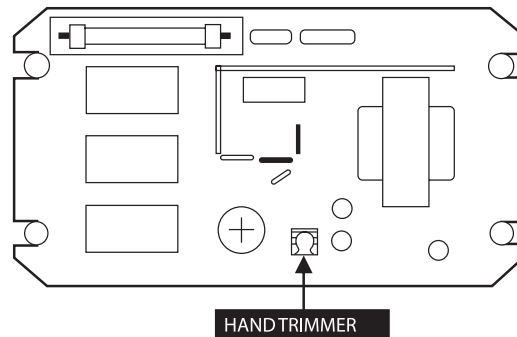

Figure 26: Hand Trimmer Location on AVR.
- a. If there is some voltage, but it does not build up to rated voltage, voltage adjustment can be made using the "hand trimmer" in the AVR (Figure 26).